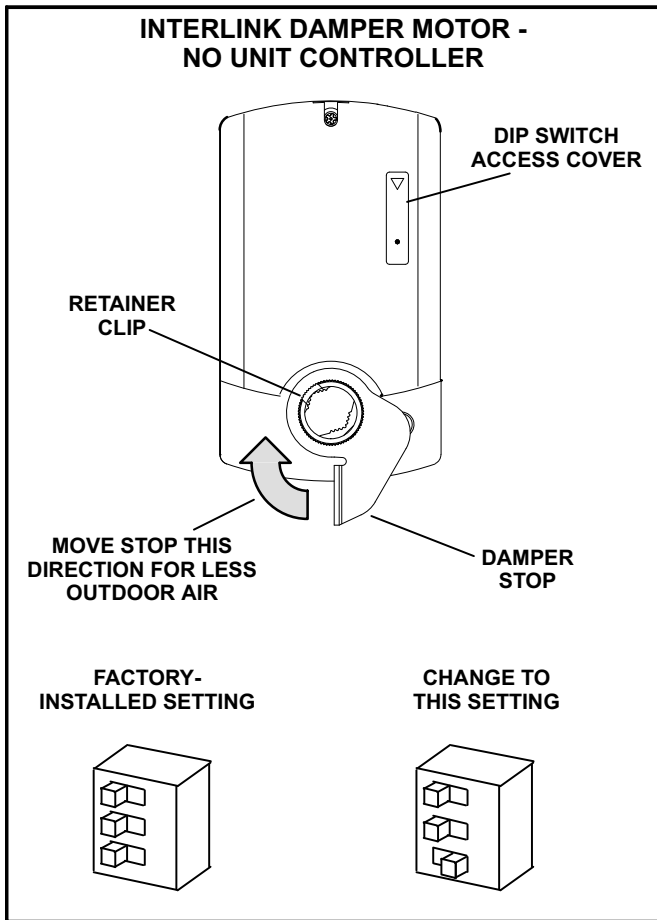

FIGURE 4
- 5- *Units NOT equipped with an A55 Unit Controller* - Open the DIP switch access cover on the damper motor and adjust the setting. See figure 4.
1- To reduce the outdoor air percentage, remove retainer clip and adjust damper stop in the clockwise direction. Replace the retainer clip securing the stop arm in the new position. See figure 4.